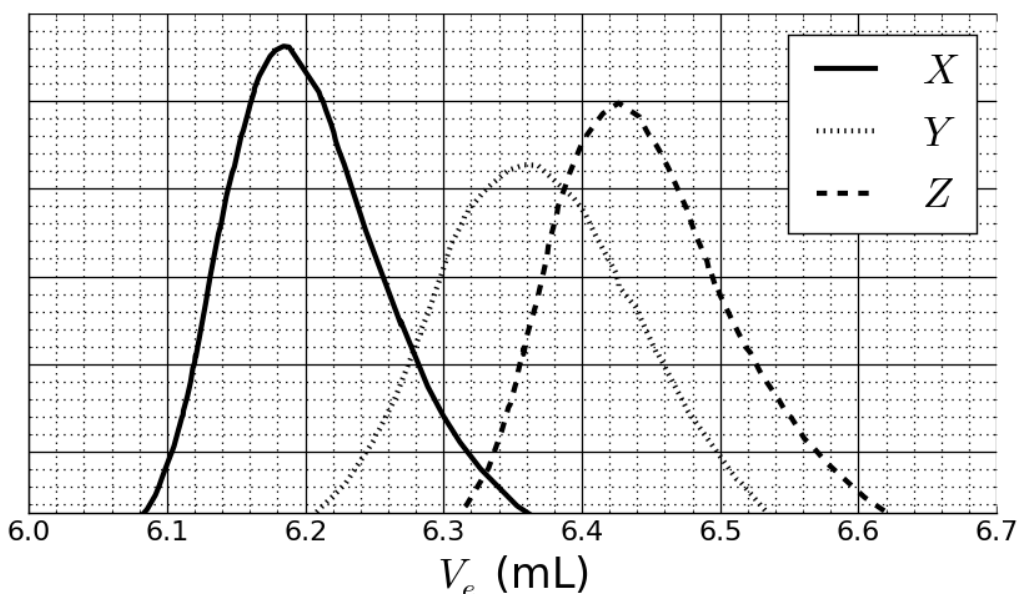

Fig. 2 – SEC chromatograms of **3a**, **3b** and **3c** as a function of the elution volume,  $V_e$ .
This reaction of **1** with **2** yielded the copolymers **3a** after 20 h, **3b** after 25 h and **3c** after 30 h of reaction at 40 °C. Results of size-exclusion chromatography (SEC) experiments are presented in Fig. 2.
6. **Match** the signals in Fig. 2 with the copolymers **3a**, **3b** and **3c**.
7. Based on the SEC curves in Fig. 2 and 3, **determine**  $V_e$  of the polymer that corresponds to curve  $X$  and use it to **estimate** the degree of polymerization  $m$  of its second block. **Detail** your calculation; you may use a calculator or plot a graph.